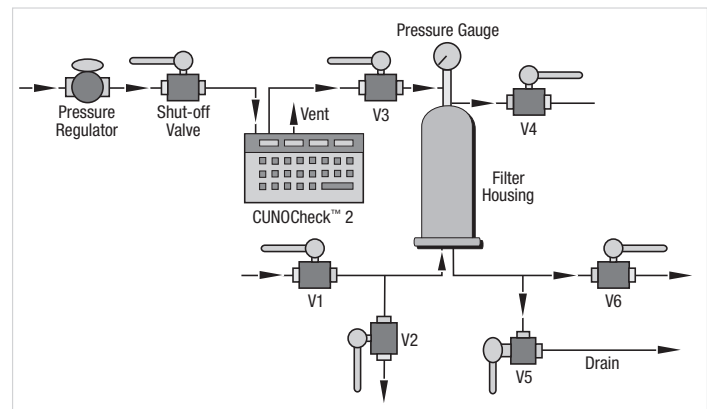

Figure 7. WIT (automated method).
The CUNOCheck 2 Automated Integrity Tester can be used to perform a WIT. When using the CUNOCheck 2 Automated Integrity Tester, follow the installation instructions for connecting the unit to the upstream valve as shown in Figure 7. Consult the appropriate 3M Purification Inc. literature for the test pressure and WIT value for the filter cartridge to be used and program these values into the CUNOCheck 2 Automated Integrity Tester when requested during the test set-up.
### 2. Procedure (Automated Testing — Figure 7)
- A. Configure the system as shown in Figure 7.